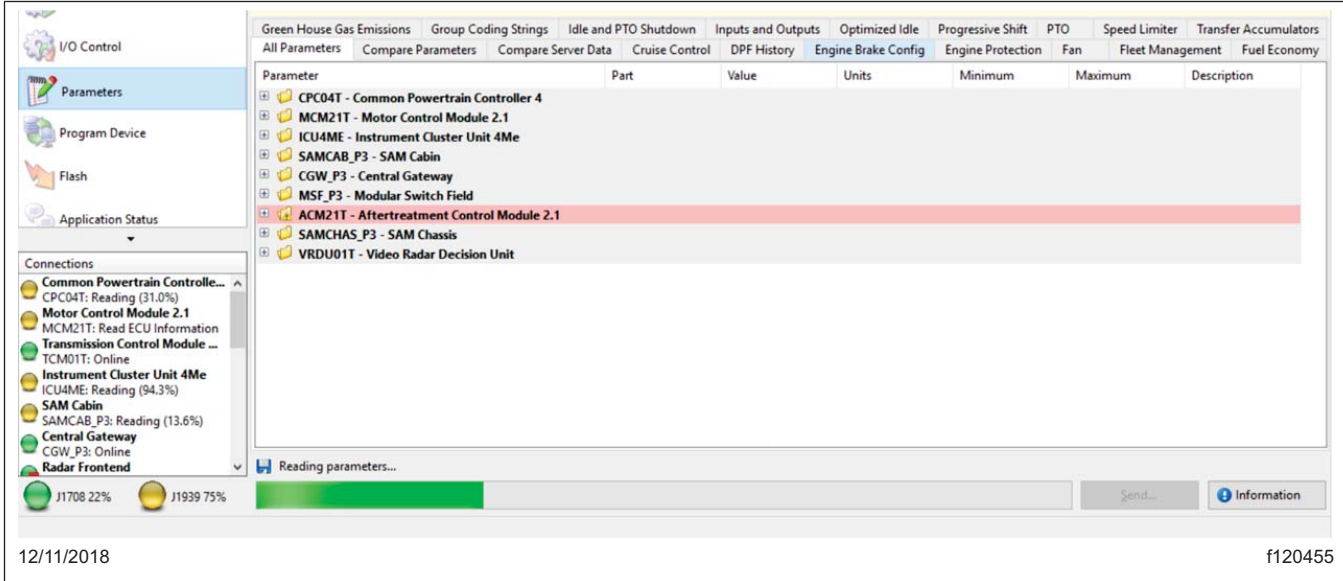

Fig. 2, Reading Vehicle Parameters on DiagnosticLink
4. Once all controllers are connected, read the vehicle parameters. See Fig. 2.